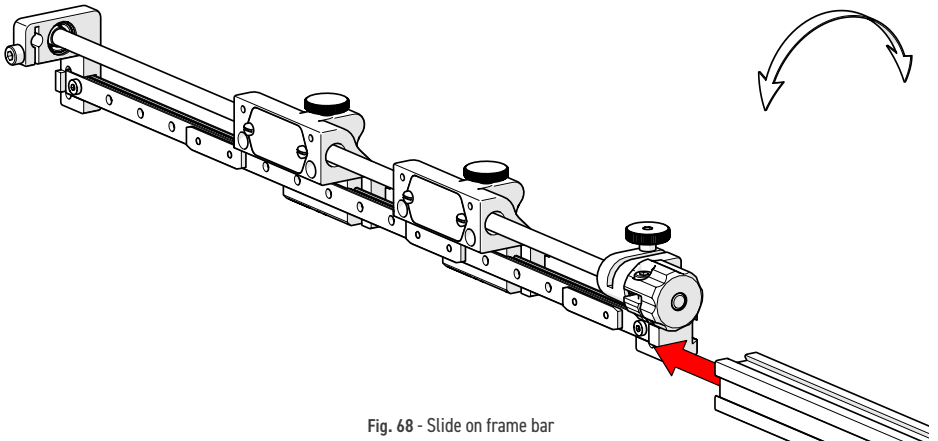
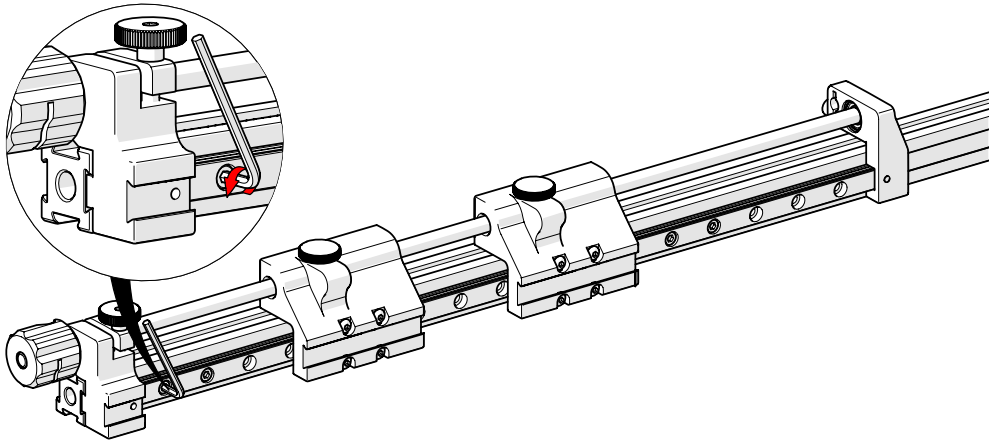

Fig. 68 - Slide on frame bar
Fig. 69 - Tighten dovetail nuts along linear rail
2. Slide the assembly onto the frame bar (Fig. 68) and tighten the hexagonal screws in each dovetail nut (Fig. 69).